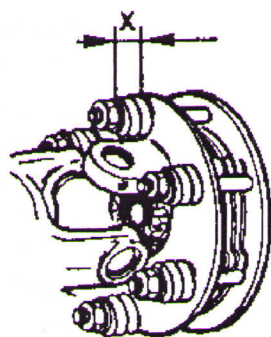

Fig. 12
- According to the power of the tractor used, adjust the spring length in accordance with the dimensions given here (fig.12/13) Turns of nut and maximum length of springs X.